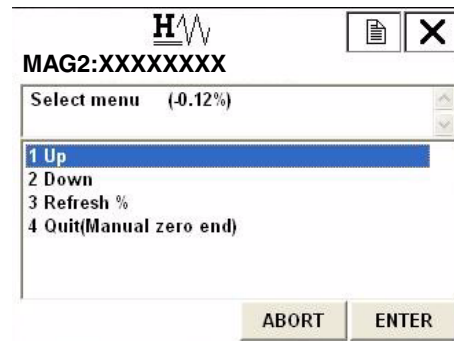
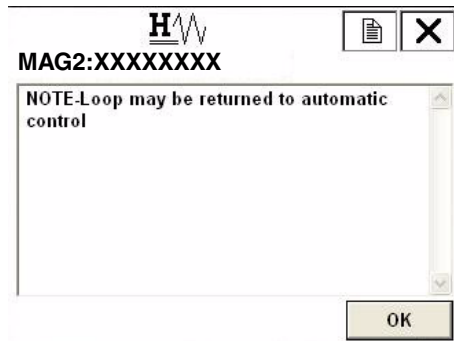

Figure 111.
Figure 112.
5. Once the display as shown Figure 111 appears, confirm the value appears on the screen and select an appropriate command by moving the arrow key up or down. After marking a selection, press F4 (ENTER). Check the adjustment value by selecting “3 Refresh %” command. If you finish the manual zero, select “4 Quit (Manual zero end) command and press F4 (ENTER). Then screen as shown in Figure 112 appears. Press OK and then the return to the Manual zero menu.